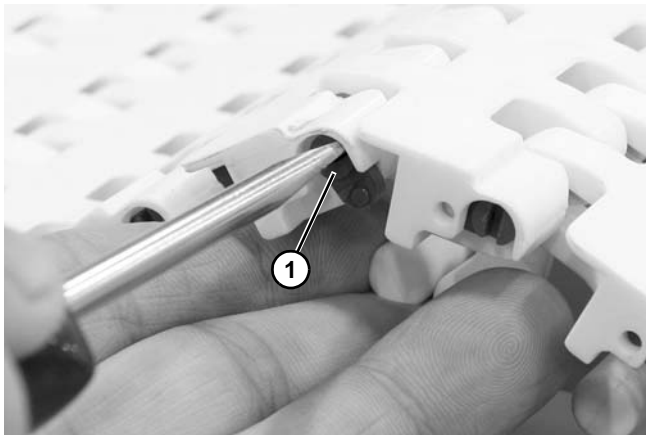

Figure 87
2. Insert a flat blade screwdriver into the slot on the rod head (Figure 87, item 1) and rotate the rod head counterclockwise to unlock. Remove the belt rod.